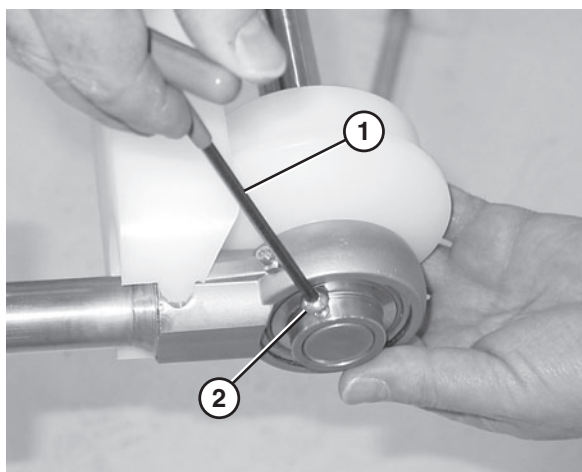

Figure 77
5. Use a hex wrench (**Figure 77, item 1**) to tighten the bearing shaft fasteners (**Figure 77, item 2**).